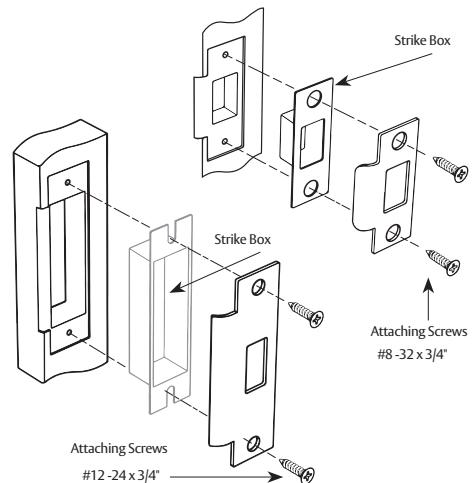

Figure 3
4. Install the strike. See Figure 3.